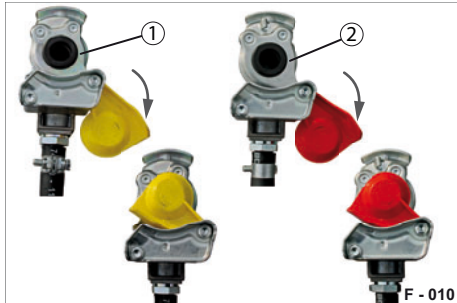

Fig. 16 Uncoupling
- ▶ Disconnect "Supply" coupling head (Fig. 16/2).
- ▶ Disconnect the "Brake" coupling head (Fig. 16/1).